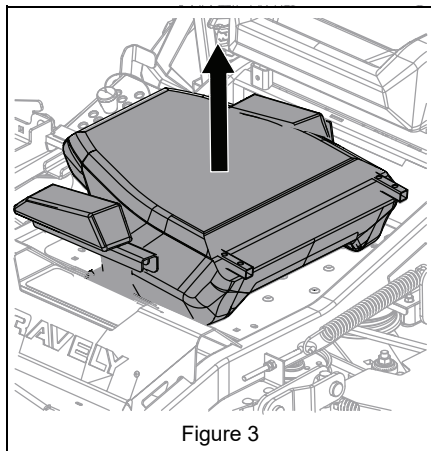

Figure 3
1. Remove backrest from access plate. See Figure 3.